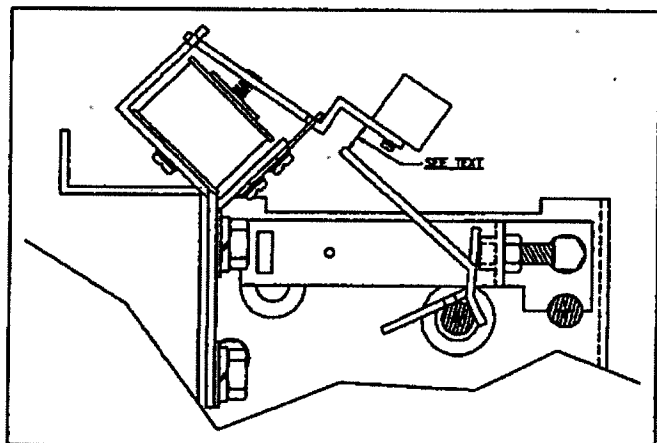

Figure 27. Trip Lever Gap Adjustment
- e. With the breaker mechanism in the reset position, check the gap between the trip coil armature and the trip lever extending from the trip shaft. This gap should be between $1/4$ inch and $5/16$ inch. If necessary, bend the trip lever slightly to achieve this setting. See Figure 27.